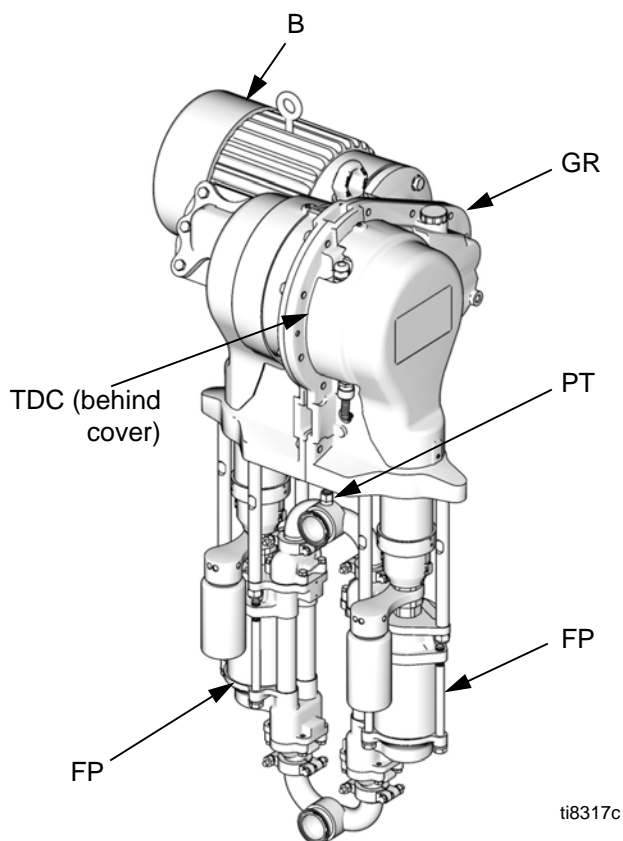

FIG. 1. E-Flo Electric Circulation Pump
An electric motor (B) provides input to a 75:1 gear reducer (GR), which drives two fluid pumps (FP). See FIG. 1. The stroke positions of the two pumps are offset to achieve consistent flow from the pump assembly. See FIG. 2.